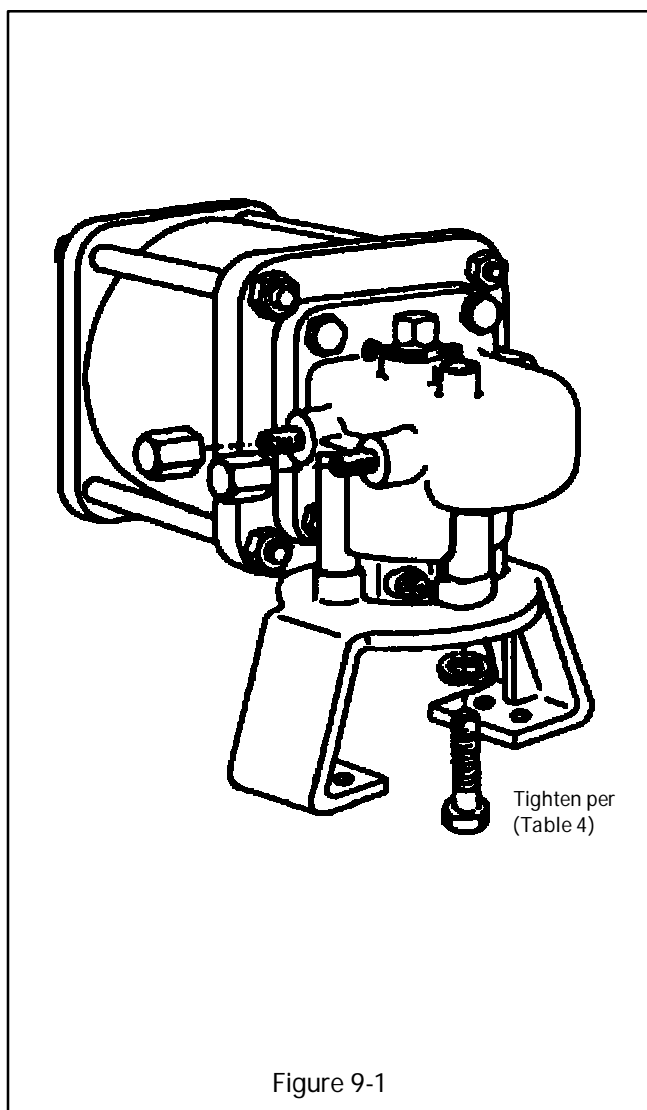

Figure 9-1
2. Assemble bracket to actuator as shown in (Figure 9-1). Tighten to torque listed in (Table 4).